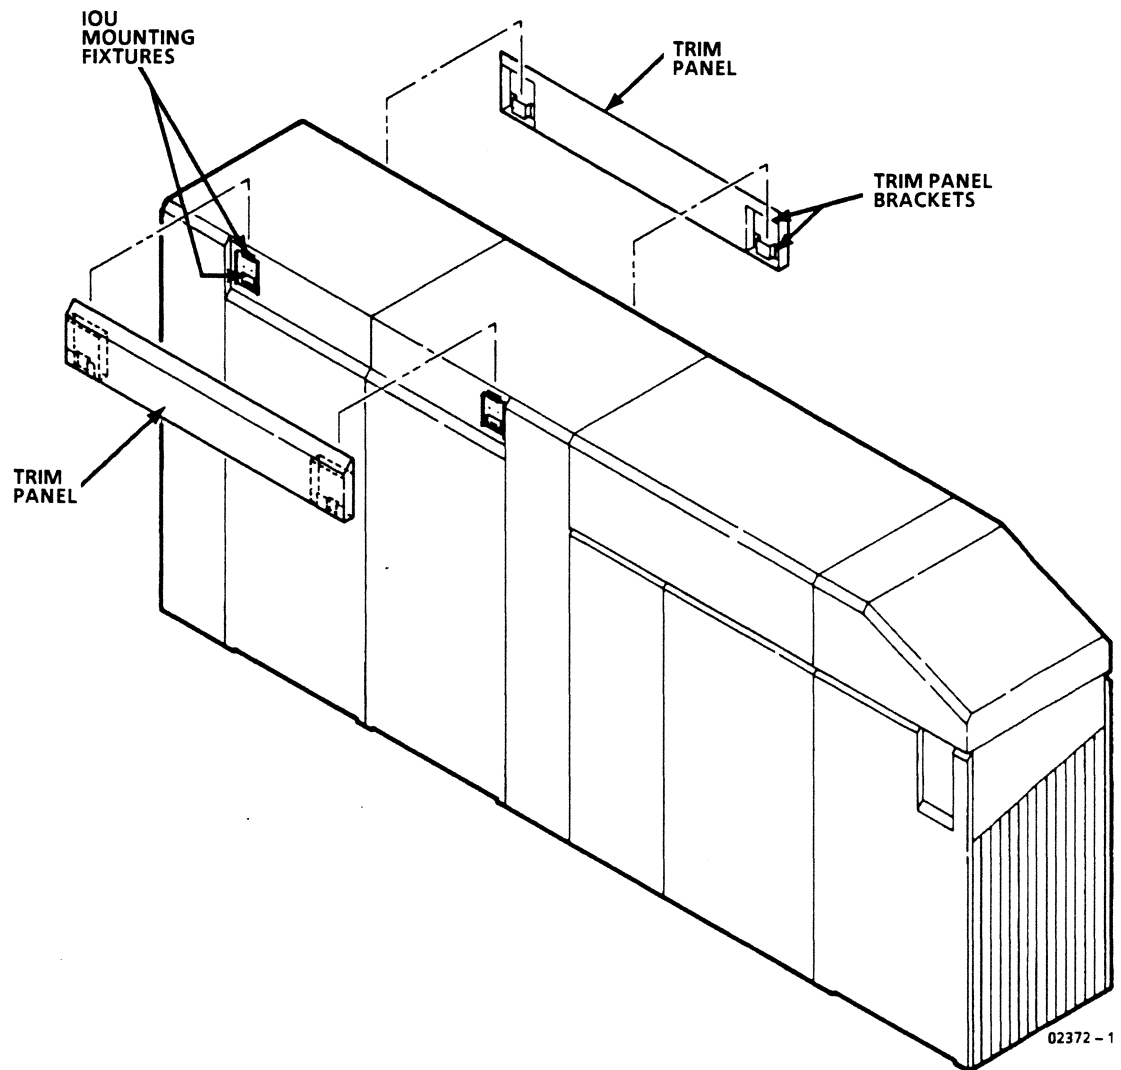

Figure 2-15. IOU Trim Panels
- ___ 3. Observe trim panel brackets and IOU mounting fixtures to become familiar with panel installation (figure 2-15).